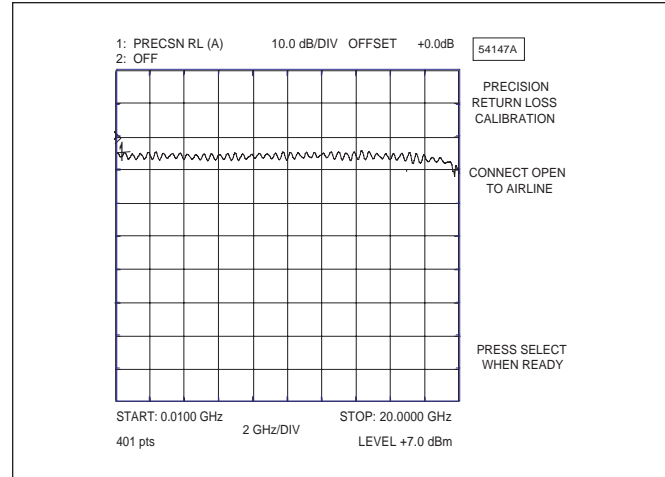

Figure 7. Example of a Good Connection
17. Verify that the display resembles that shown in Figure 7.